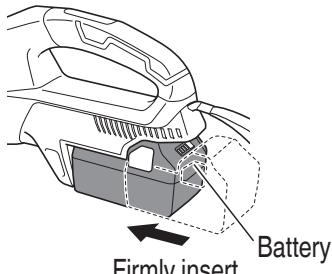

Fig. 18
3. Install the battery (Fig. 18)